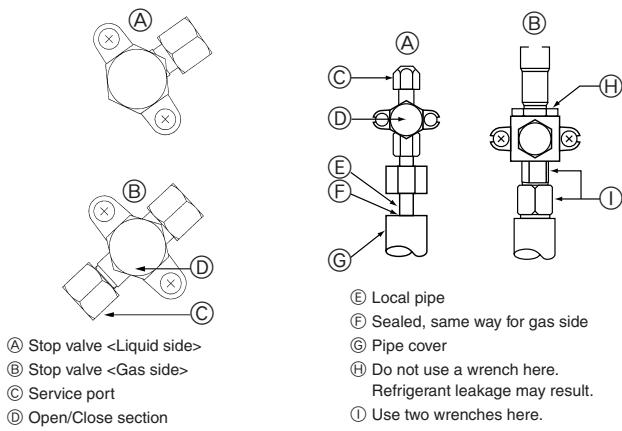

Fig. 4-4
⑤ Use sealant to seal the ends of the thermal insulation around the pipe connection sections to prevent water from entering the thermal insulation.
4.4. Refrigerant pipe airtight testing method (Fig. 4-4)